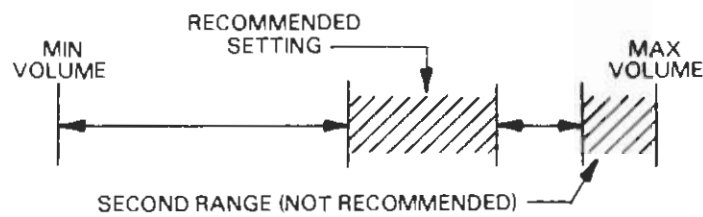

Figure 4.4 VOLUME CONTROL RANGE SETTING
10. Setting of the volume control is critical for proper operation. The error code displayed for an incorrect (low) volume control setting is E28. Figure 4.4 illustrates the area of the volume control available for a proper setting.